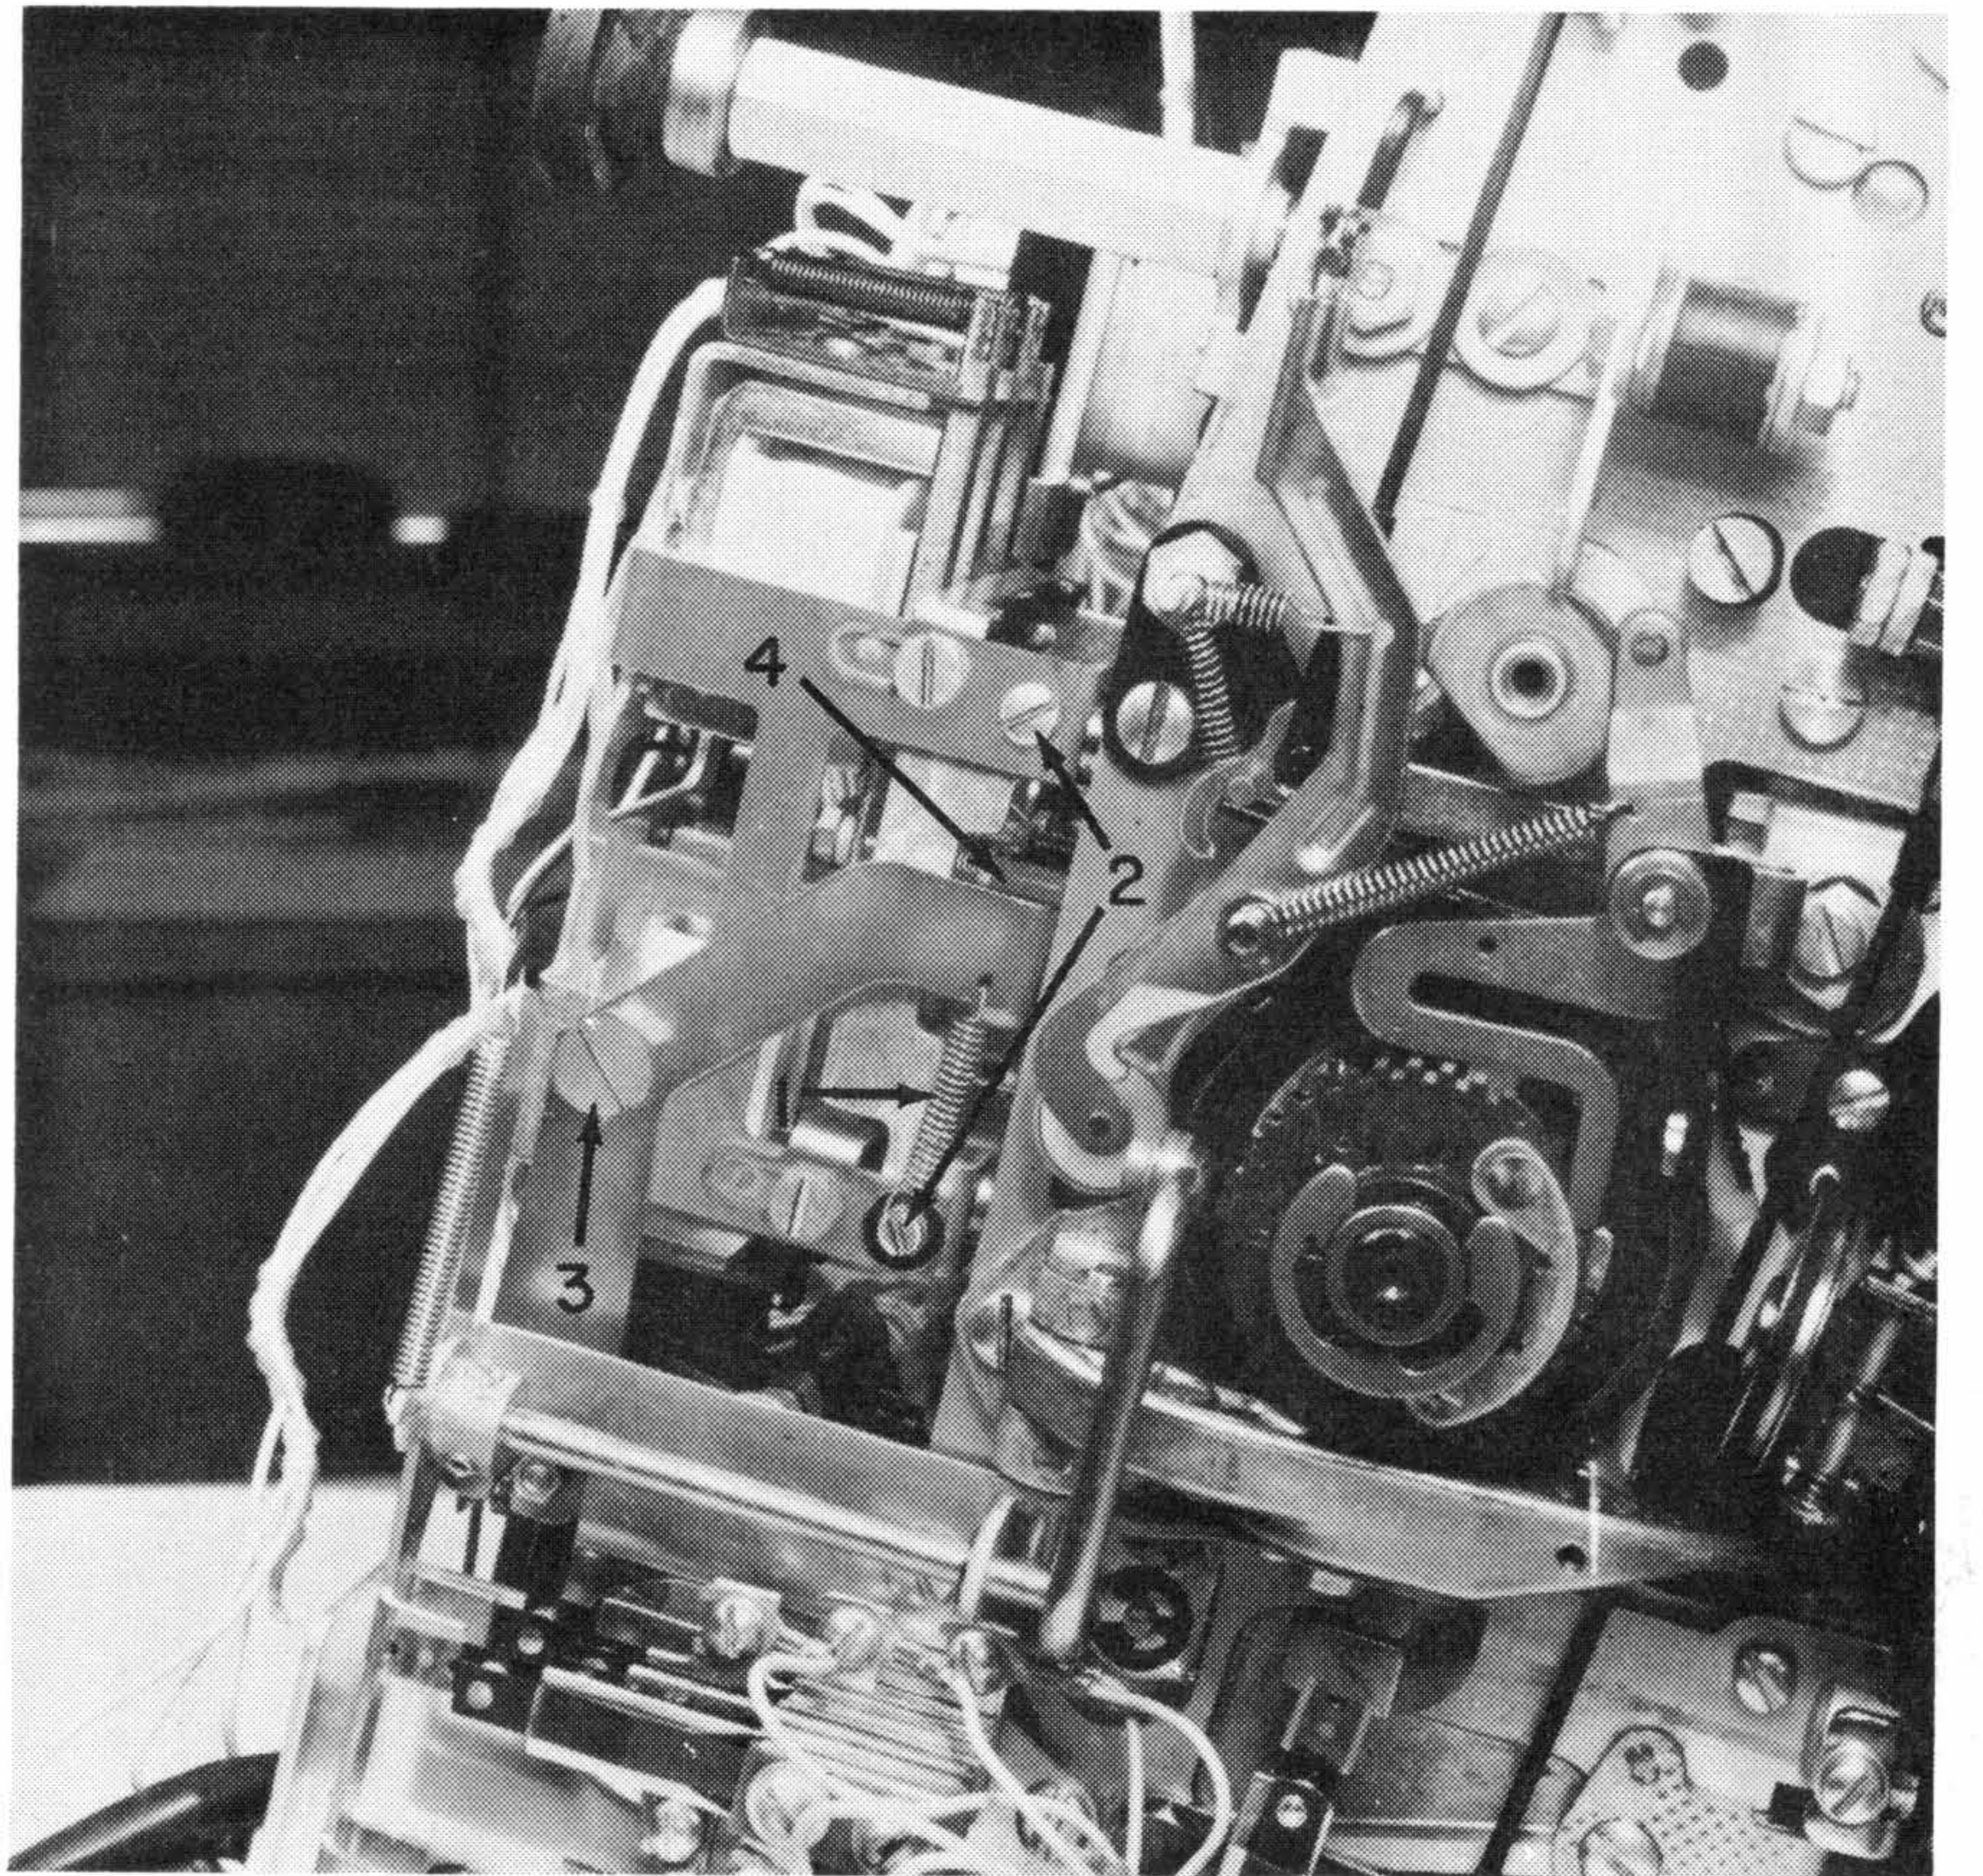

Figure 45. Operational Magnet Assembly Removal
2. Remove the actuator-arm spring (#1, Figure 45).
3. Remove the two mounting screws (#2, Figure 45).
4. Remove the actuator-arm pivot screw (#3, Figure 45).
5. Remove the armature-link clevises (#4, Figure 45).